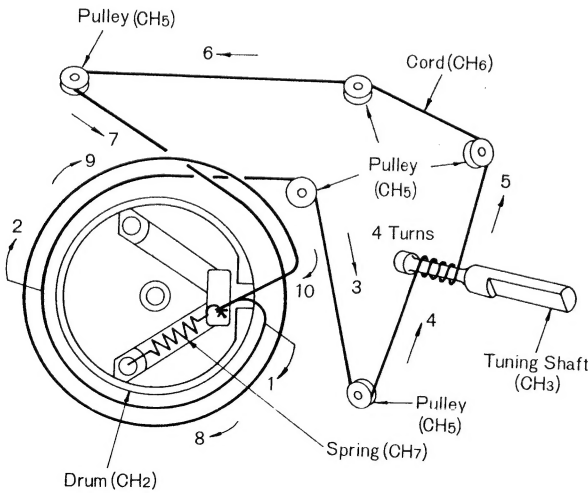

Fig. 8
4. Arrows (1~10) indicate correct order and direction of dial cord installation, as illustrated in fig. 8.